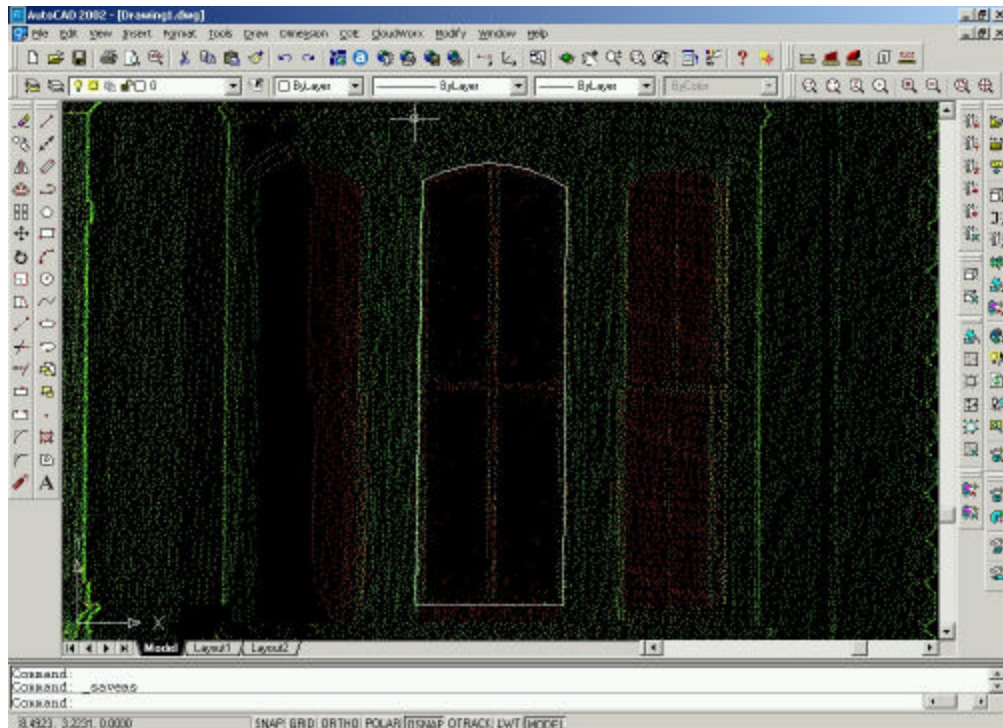

Fig. 6.1.1
4. Draw a polyline and arc approximately around one of the windows (fig. 6.1.1)